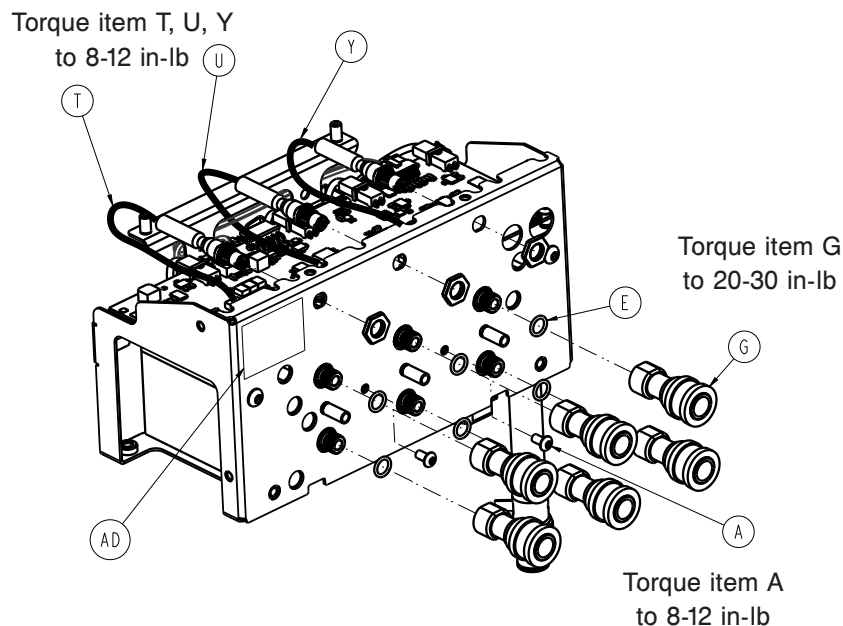

Figure 41: O-ring
Note: Verify O-ring (E) is seated properly between the return and supply manifolds. (Figure 41 on page 56)